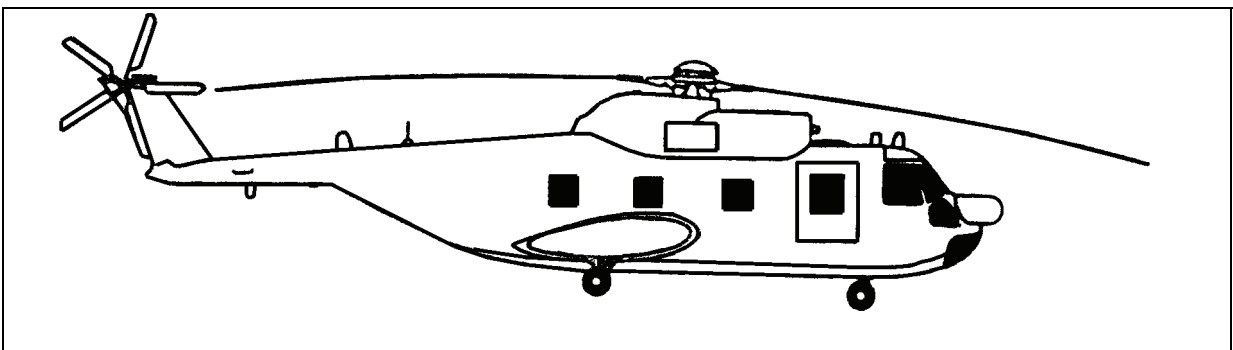

Figure 2-6. HH-3F Pelican
- SH-3G and HH-3F.** The SH-3G Sea King, and HH-3F Pelican (Figure 2-6) are twin engine, single main rotor helicopters manufactured by Sikorsky Aircraft. These helicopter models have two different cargo hook systems: the cable-suspended cargo sling system, rated at 6,000-pound capacity; and the low response cargo sling system, rated at 8,000-pound capacity.